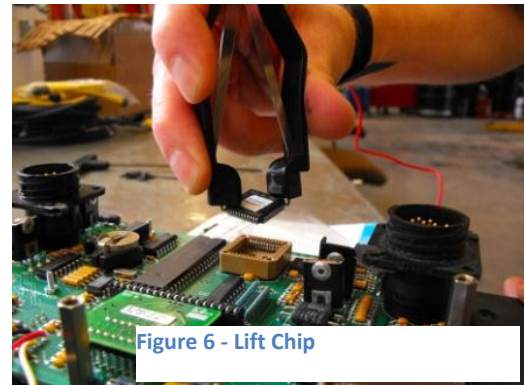

Figure 6 - Lift Chip
7. Once the ends are securely around the bottom on the chip, lift the chip straight up (Figure 6).